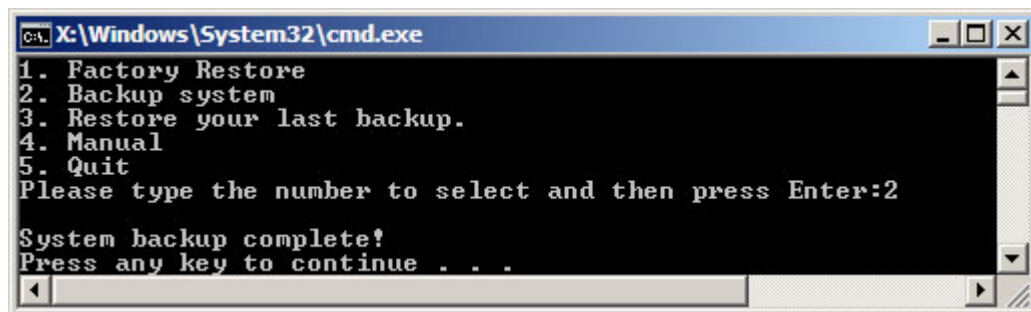

Figure B-38: System Backup Complete Window
Step 3: The screen shown in **Figure B-38** appears when system backup is complete. Press any key to reboot the system.